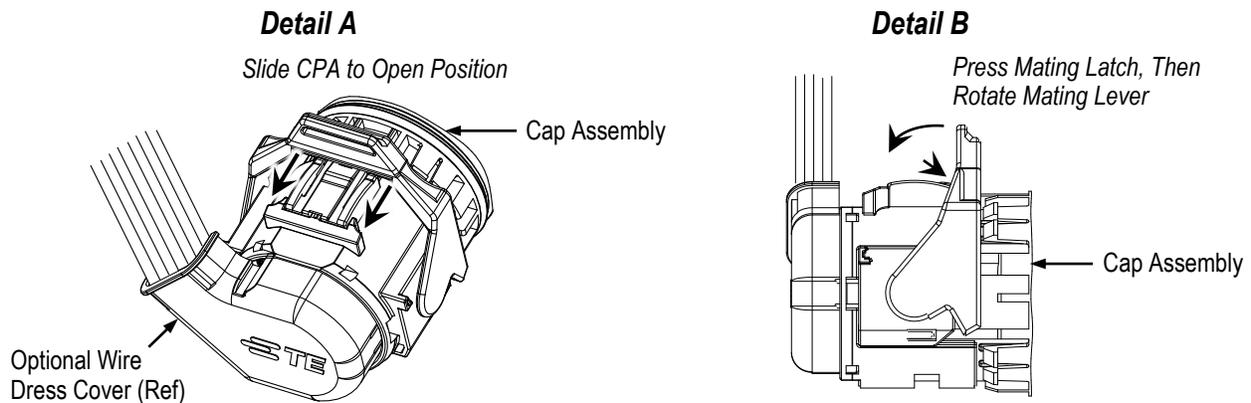

Figure 8
- Pressing on both sides of the CPA, slide the CPA away from the cap assembly until it stops. The CPA is now in the open position. See Figure 8, Detail A.
2. Press the plug assembly mating latch until the mating lever is released; then, rotate the mating lever away from the cap assembly until it stops. The mating lever is now in the open position. See Figure 8, Detail B.